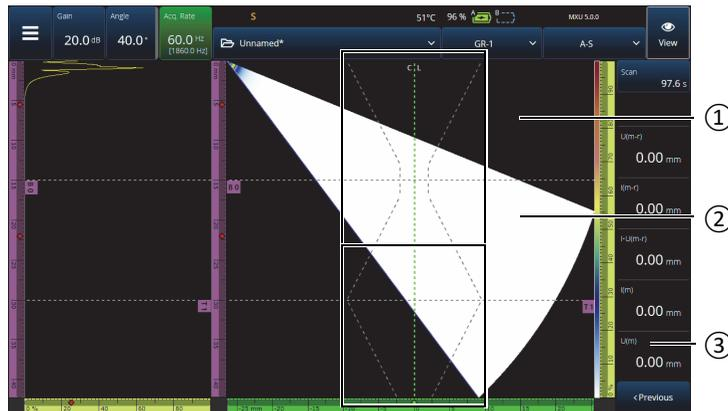
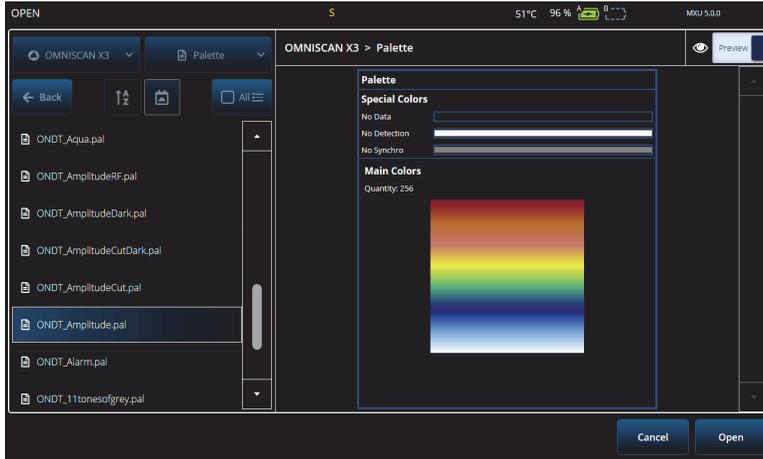

Figure 2-43 Example of a V-Offset weld geometry overlay
Figure 2-44 Color palette selector
If your inspected part includes a weld, you can toggle the visibility of the weld geometry overlay. The weld geometry overlay is a drawing of the weld geometry superimposed on the S-scan view that helps visualize where indications are located relative to the weld (Figure 2-43 on page 75 and Table 37 on page 75).
- ◆ Tap and hold the color palette (the ruler/scale shown on the right side of Figure 2-43 on page 75), and then select **Load**. Review the available color palettes, and tap **Open** to change the palette (Figure 2-44 on page 76).